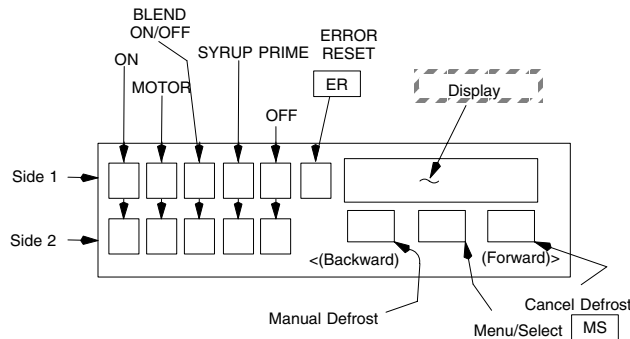

FIGURE 6. CONTROL PANEL SWITCH/MESSAGE DISPLAY
1. Press and hold the “MENU/SELECT” (M/S) switch on the control panel (see Figure 6) until the word “CLOCK” appears on the message “DISPLAY”.